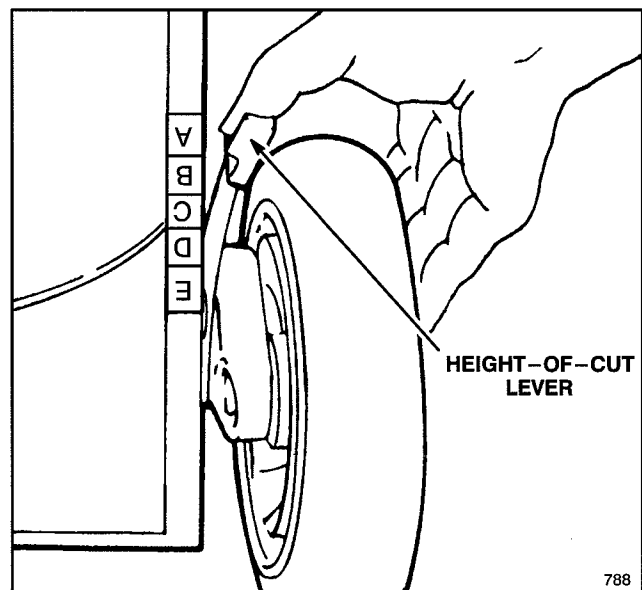

Figure 9
3. Squeeze the mower's height-of-cut lever toward the wheel and move it to the corresponding color/letter on the mower housing (Fig. 9). For easier adjustment, lift housing up so wheel is off ground. **Do not put fingers under housing when lifting.** Ensure pin on height-of-cut lever engages slot in housing. Adjust all wheels to the same color/letter setting.